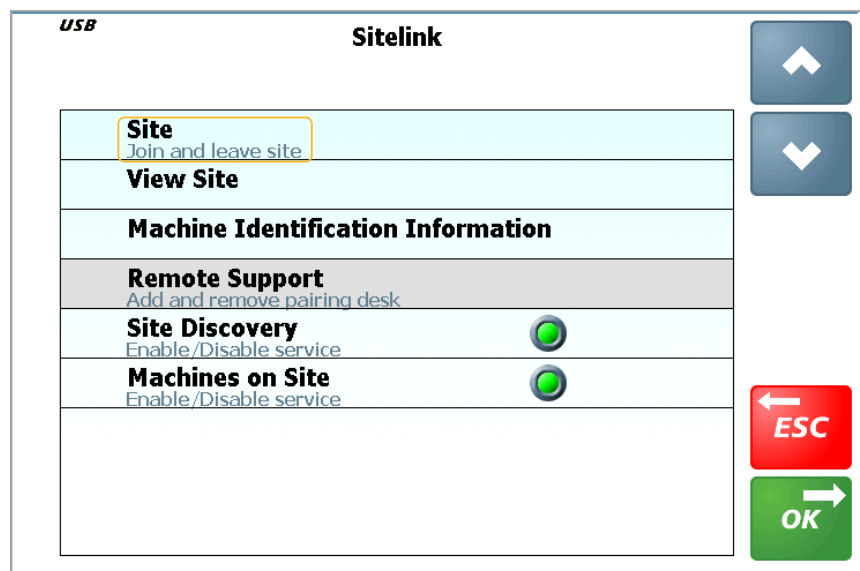

Figure 2-29: Load Weighing Display Sitelink
4. Select **Sitelink**, then select **OK** to open the **Sitelink** screen (Figure 2-29).